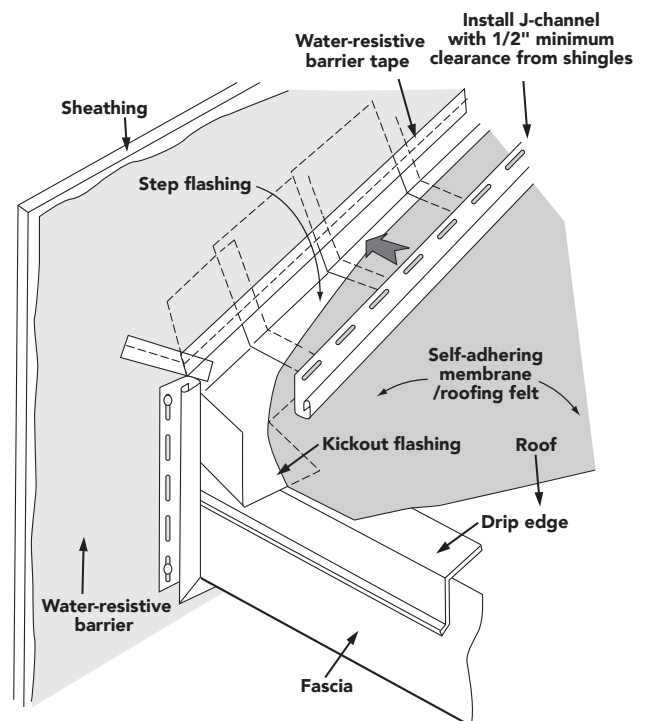

Figure 43
- As an alternative to the diverter, create a “kickout” from metal flashing, as shown in Figure 43.
NOTE: “Kickout flashing” (Figure 43) is an additional flashing strip that extends beyond the edge of the fascia that is required in some cold-climate localities.